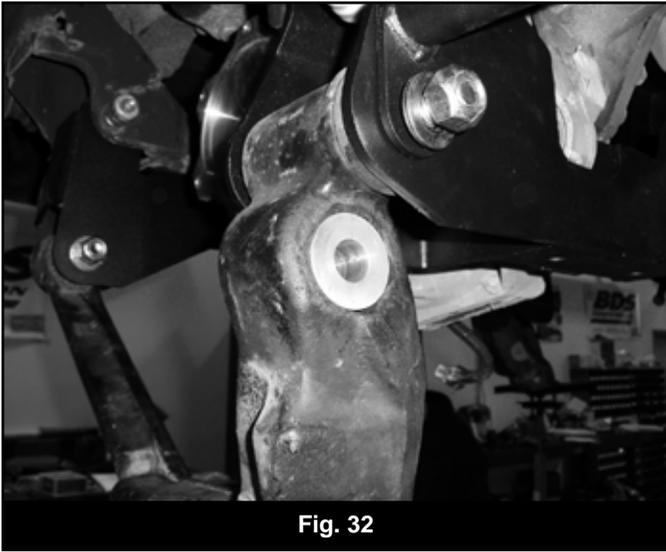
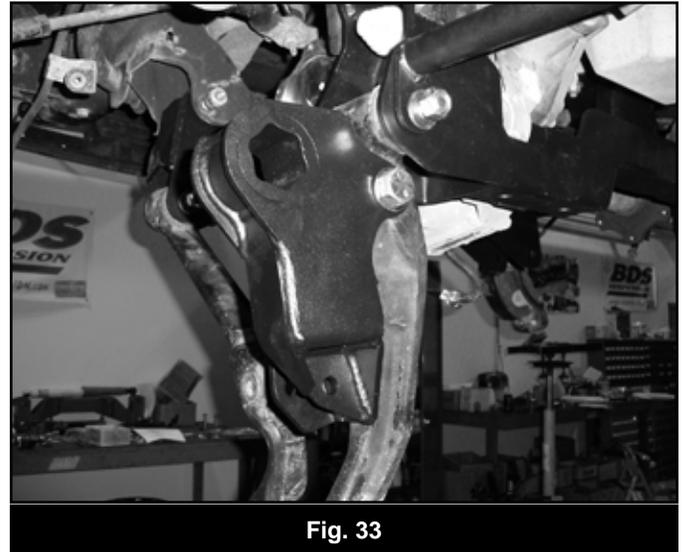

Fig. 32
Fig. 33
57. Install the provided aluminum spacer (02196) into the torsion bar hex hole in the control arm (Fig 32). Install the new torsion bar bracket on the control arm so that the large mounting holes align with the aluminum spacer and the smaller slots align with the original shock mount bolt holes (Fig 33). Loosely fasten the bracket with the provided 3/4" x 4-1/2" bolt, nut and 3/4" SAE washers.